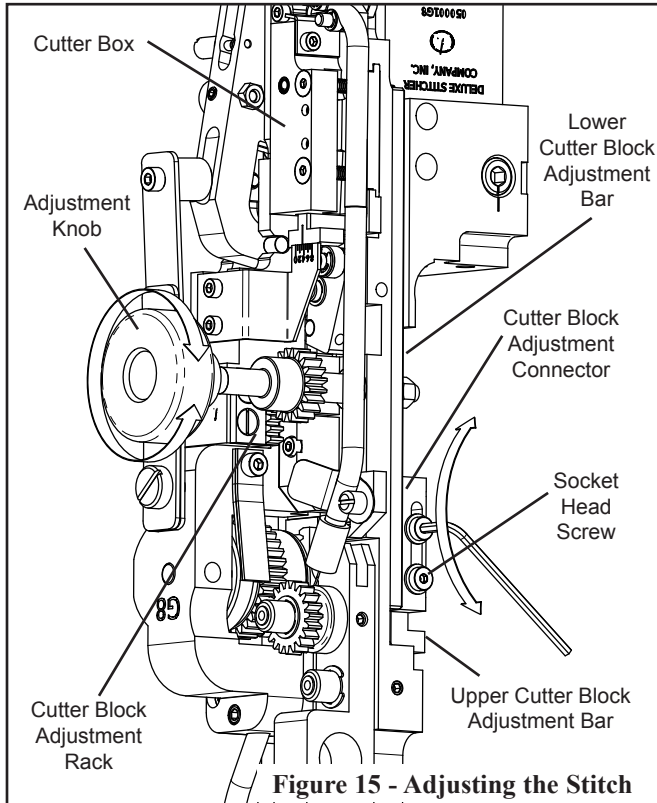

Figure 15 - Adjusting the Stitch
For G8 Heads mounted to a machine with an adjuster rail, loosen the two (2) Hex Head Screws securing the Lower Cutter Block Adjustment Bar and Cutter Block Adjustment Connector to the Upper Cutter Block Adjustment Bar. For all G8 style Heads, place the Adjustment Knob over the Cutter Adjustment Stud as shown in Figure 15 and engage the teeth of the Cutter Block Adjustment Rack and adjust as shown in the following illustrations. Be sure to run a couple of stitches after each adjustment.